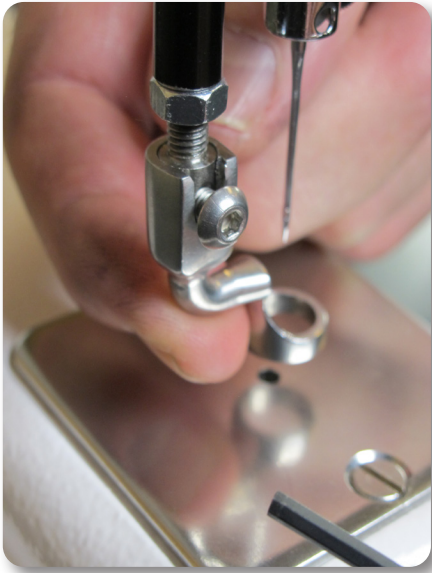

Figure 8
2. Slide the desired foot onto the mount (figure 8). **Note** that the opening on the side of the foot is lined up with the screw hole. Push the Foot up as far as it will go.